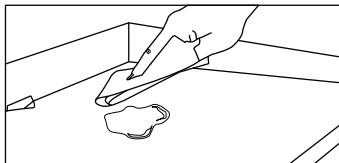

Fig. 10
STEP 05 Apply thin coat of cooking oil to maintain seasoning and protect the griddle top. (See Fig. 10)